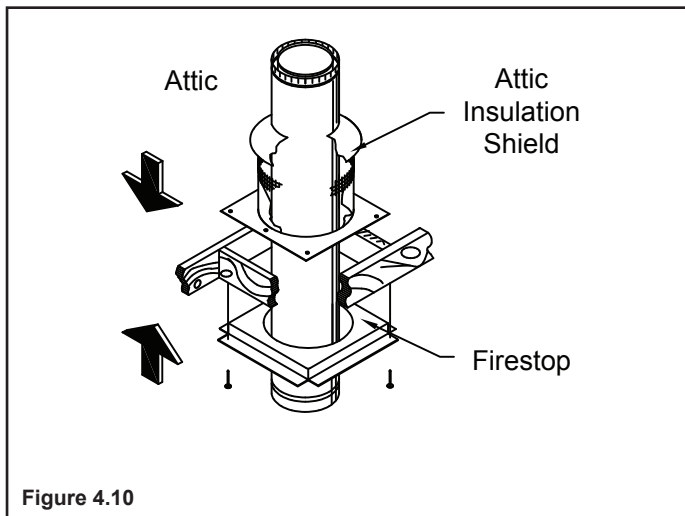

Figure 4.10
- Slip the attic insulation shield over the chimney until the base sits squarely on the framed opening (Figure 4.10).